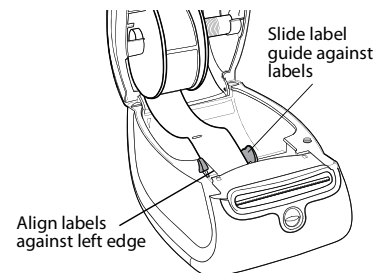

Figure 4
- The labels must be loaded with the left edge of the label inserted against the left edge of the label feed slot. See Figure 4.
- 7 Align the left edge of the label with the left edge of the label feed slot and insert the label into the slot. See Figure 4.
- 8 Slide the label guide to the left until the label guide aligns with the right edge of the label. See Figure 4.